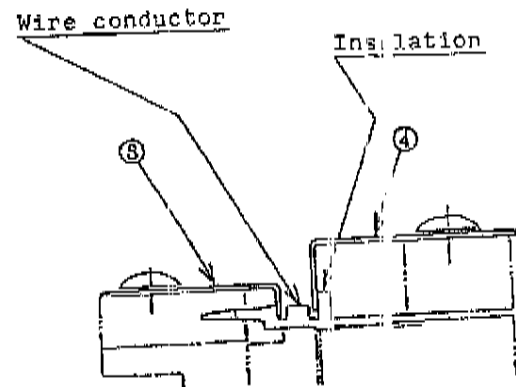
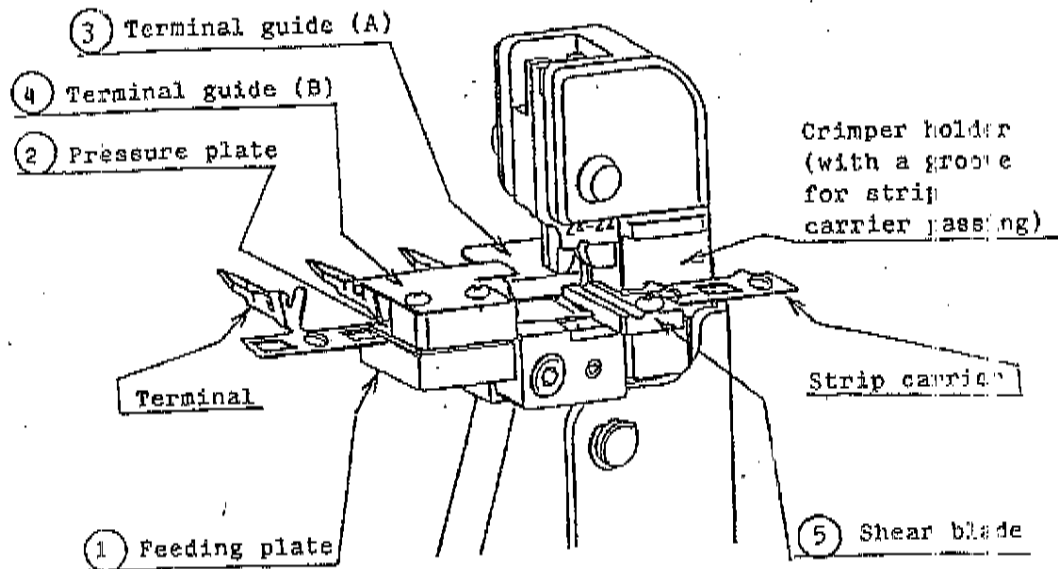

Fig. 5
Fig. 6
- (1) Squeeze handles until ratchet releases and handles open.
- (2) Make sure of the applicable wire range which is stamped on the crimper, so that the crimper is installed correctly in the main unit.
- (3) Insert the strip carrier of terminals between the ① feeding plate and ② pressure plate. Position a terminal to be held under the ③ terminal guide (A) and ④ terminal guide (B) per Fig. 5. Feed terminals until the first terminal is aligned with the crimper and the crimper anvil. (See Fig. 6.)
- (4) Squeeze handles gently until the terminal is held by the crimper and the crimper anvil. At this time, do not crimp(deform) the terminal.